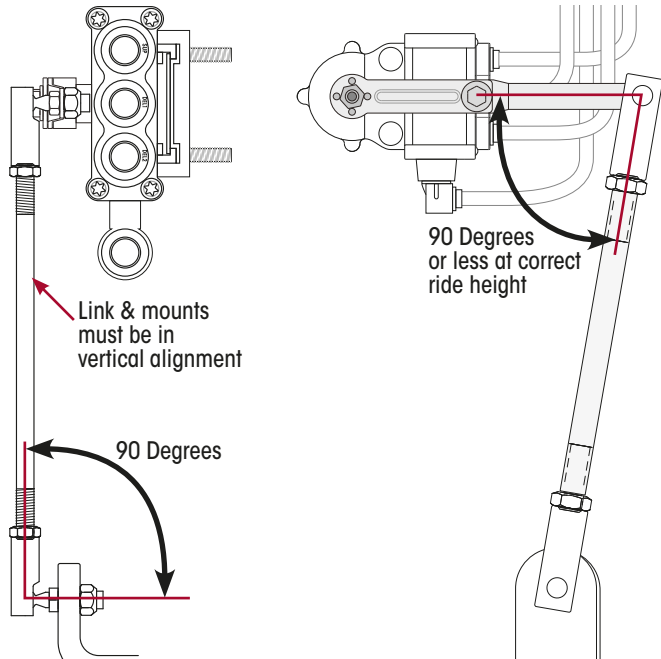

**Figure 6:** Suspension Exhaust Vent Under Interface Cap
13. Rotate control arm downwards to around 20 degrees below horizontal. The air spring should now begin deflating through the HCV exhaust port, which is underneath the interface cap. Refer Figure 6. This is
**IMPORTANT:** Height control valves will often continue to exhaust air from the exhaust, located under the interface cap, for several minutes after a vehicle has stopped. This is a normal operating function of the HCV as the vehicle stabilises, hence, does not indicate an HCV is leaking or faulty. Refer Figure 6.